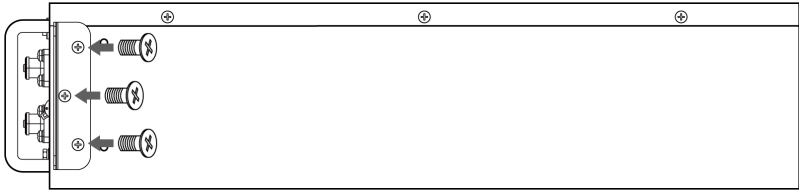

Figure 4-2
f) Use the 6 screws of M4*8 to fix the mounting lugs to both sides battery, as show in Figure 4-2.